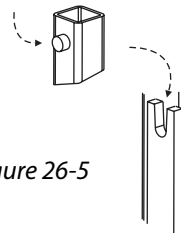

Figure 26-5
9. Attach platform by placing platform's upright pins into u-shaped bracket on tower. [Figure 26-5]